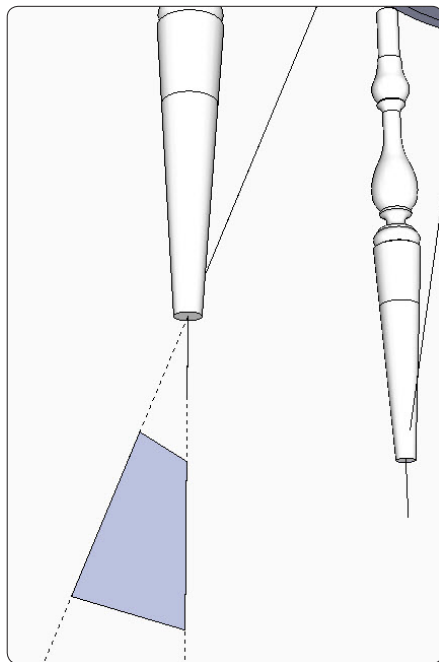

Figure 37. Set a pair of guide lines, one aligned with the leg and the other with the centerline. Use them to draw a four-sided face.
Step 10 Now, you'll create a rotation plane that will allow you to rotate the legs so they align with the centerlines. Use the Tape Measure Tool to double-click on the centerline component and on the leg centerlines. This creates two intersecting guide lines. Draw a four-sided shape between the guide lines, as shown in Figure 37. The size of the shape doesn't matter, because it will be used only temporarily to set the Rotate Tool.